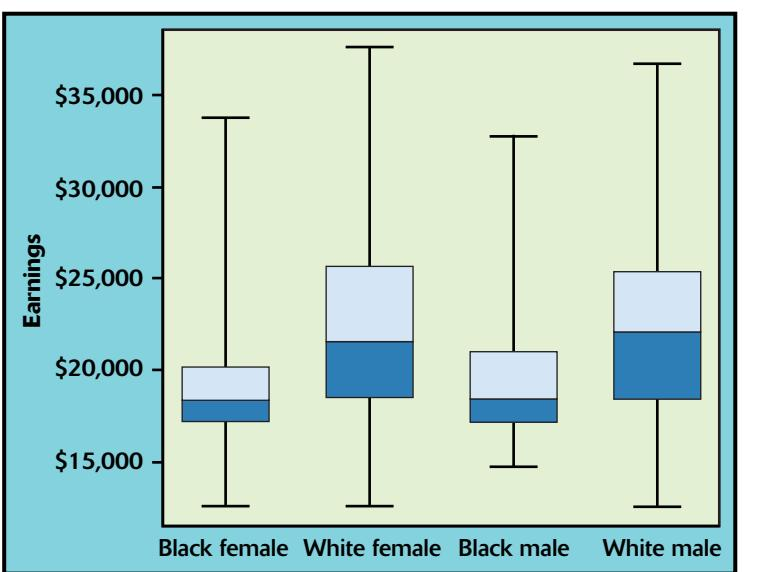

FIGURE 1.11 Side-by-side boxplots comparing the earnings of four groups of hourly workers at National Bank, for Example 1.12.
The boxplots in Figure 1.11 compare the four distributions of earnings.
Figure 1.11 illustrates the power of simple statistical descriptions to make sense of a large amount of information. Although of less interest in this case, boxplots also suggest the symmetry or skewness of a distribution. In a symmetric distribution, the first and third quartiles are equally distant from the median. In most distributions that are skewed to the right, on the other hand, the third quartile will be farther above the median than the first quartile is below it. The extremes behave the same way, but remember that they are just single observations and may say little about the distribution as a whole, especially if either is an outlier. Figure 1.11 suggests that the earnings distributions are somewhat right-skewed.
- 1.34 **Bank workers.** Complete the calculation of the five-number summaries of earnings for the four sample groups of workers in Table 1.8 (page 31). Make side-by-side boxplots to compare the groups. Do these small samples faithfully reflect the nature of the complete data set as shown in Figure 1.11?